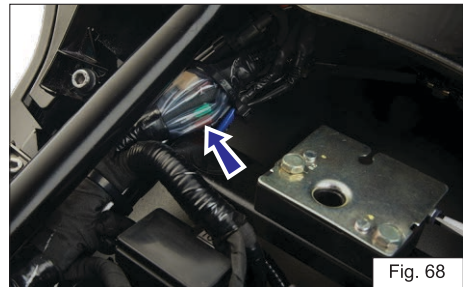

Fig. 68
- ♦ Spare fuse for the each of the fuse is located inside the fuse box (A) and as well as in the wiring harness (B) below the seat latch of pillion seat (ref. Fig. 68).